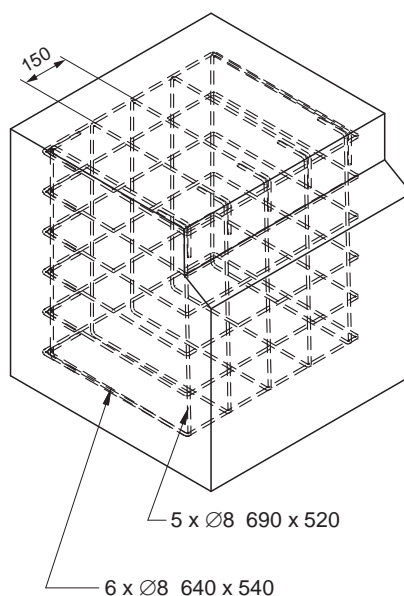

Fig. 13: Reinforcement grid Access XL (dimensions in mm)
- Reinforcing grid as shown in Fig. 13.
2. Place reinforcement grid pursuant to Fig. 13 in the foundation hole.